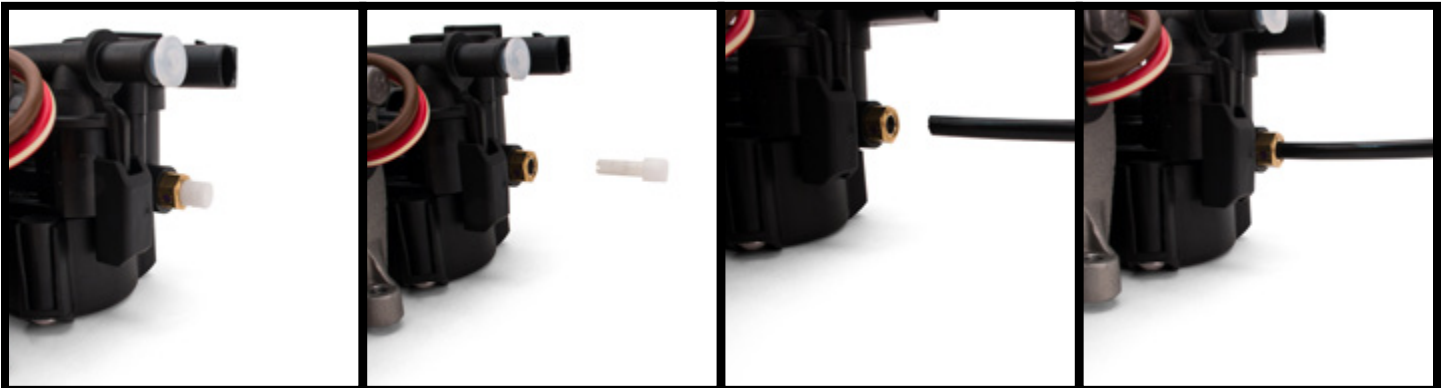

FIGURE 17
2. Remove the white shipping pin and insert air line. (Figure 17)